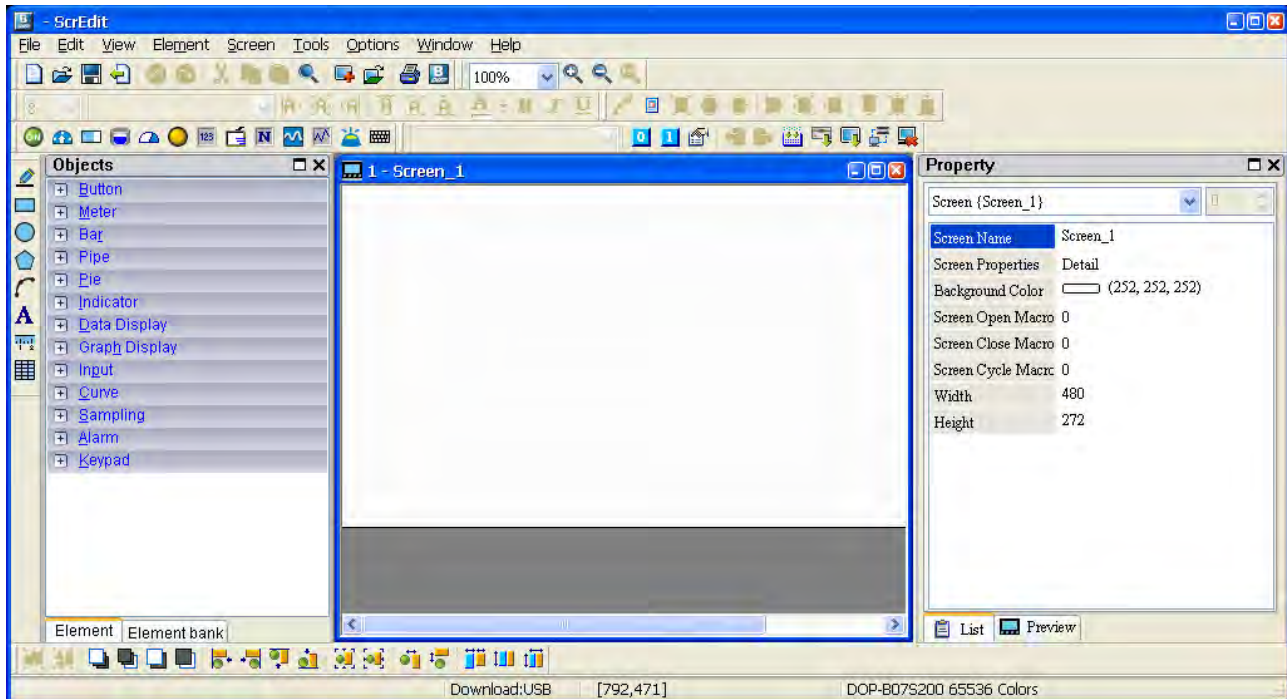

Fig. 3-2-5 New project screen of Screen Editor
3. Enter the project name, screen name, screen No. and select connected HMI, controller or printer. Then, click **OK**. It can create a new project in Screen Editor software program as shown in the following (Fig. 3-2-5).